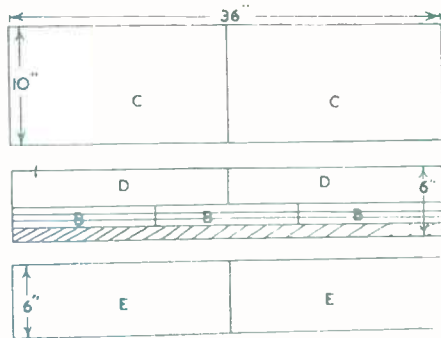

Fig. 2
(pieces C and D), the bottom (C and D) shelf pieces (E), and corner pieces (B) (eight required). Fig. 2. shows how the wood should be laid out for economical cutting. The sides (pieces A) are cut from ½in. plywood.